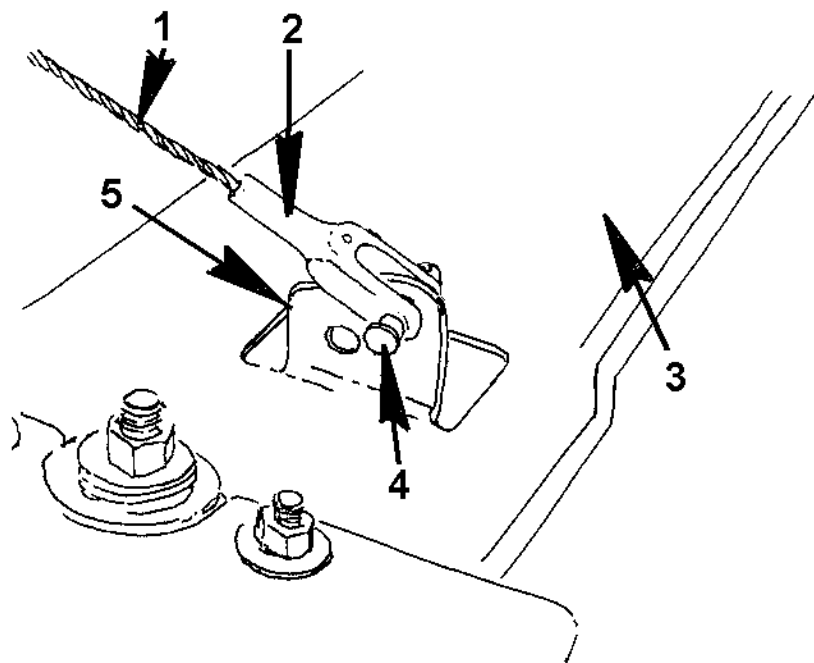

Figure 27 Retaining Clip Removal
7. Locate the retaining pin (Figure 27, Item 4) and the clevis (Figure 27, Item 2) on the radiator top frame brackets.